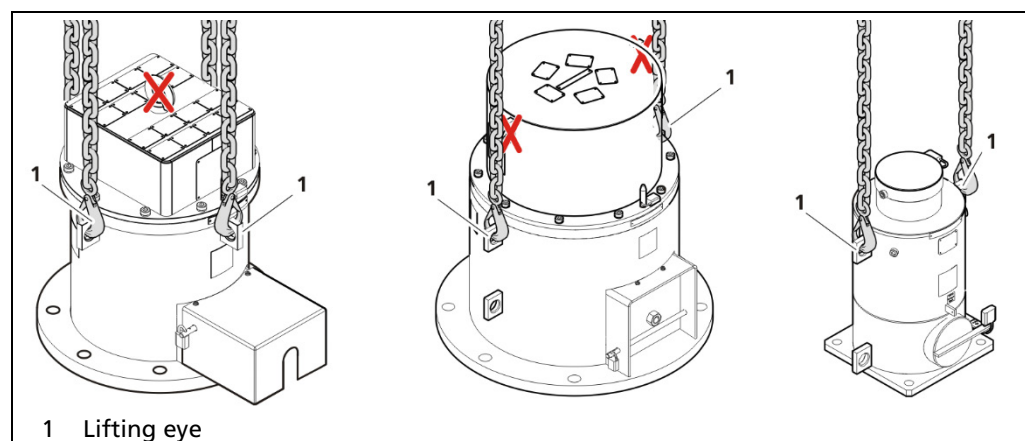

Fig. 24 Attach shield and set down
3. Attach the shield to the lifting eyes with adequately dimensioned and tested slings (Fig. 24, item 1).